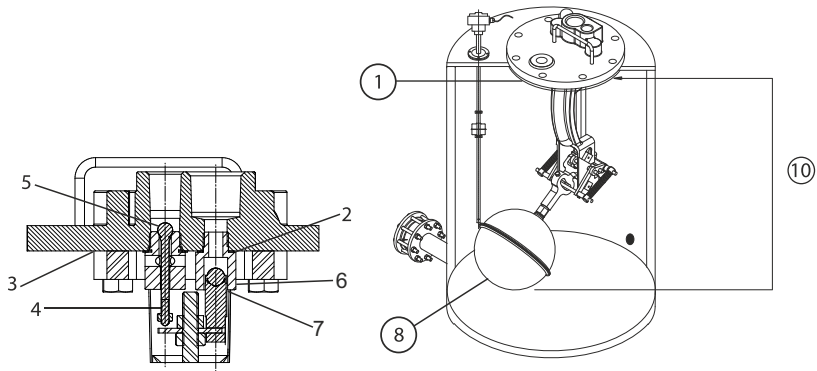

Figure 8: Available Spares for PPPU-D
9. Available Spares : (Refer to Figure 8)